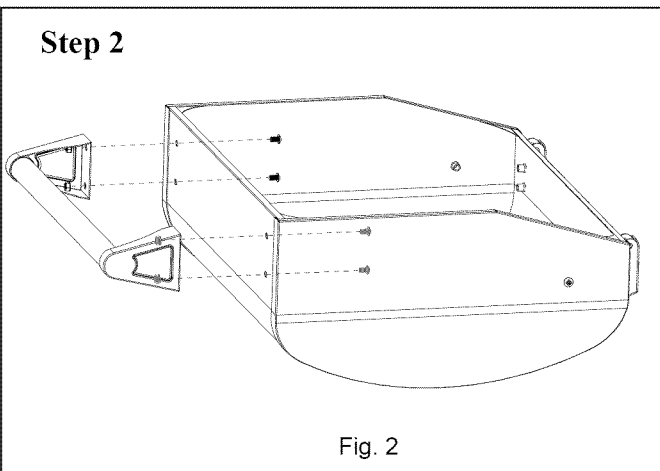

Fig. 2
*Locate:* (1) Lid Handle Assembly, (4) M6x12 bolts and (4) M6 KEPS nuts
*Procedure:* Refer to Fig. 2, attach the Lid Handle Assembly to the Gas Grill Lid using (4) M6x12 bolts and (4) M6 KEPS nuts as shown.